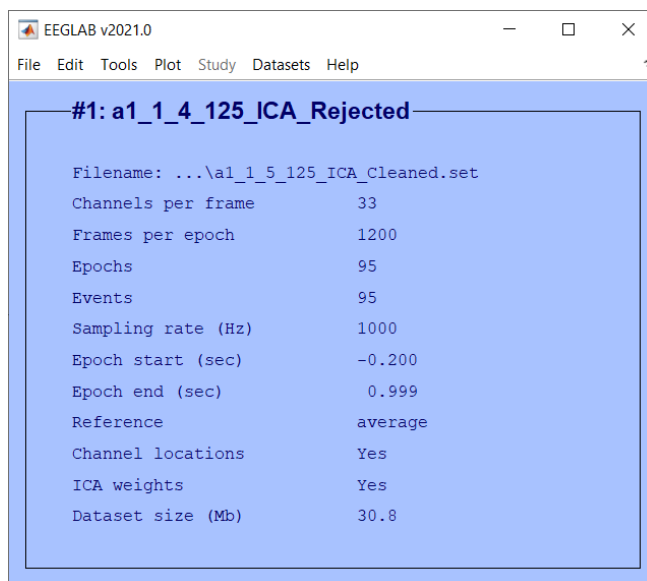

Figure 2- Loading .set files.
- 2- It has 33 channels, 95 Epochs, and a time window from -200 to 1000 ms. (Figure 2) It shows that the channel location is available, ICA weights exist, the reference method is average and the sampling rate is 1000 Hz.